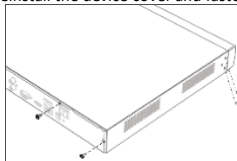

Figure 2-1 Remove Cover
Step 1 Unfasten screws on each panel to remove the device cover. Refer to Figure 2-1.